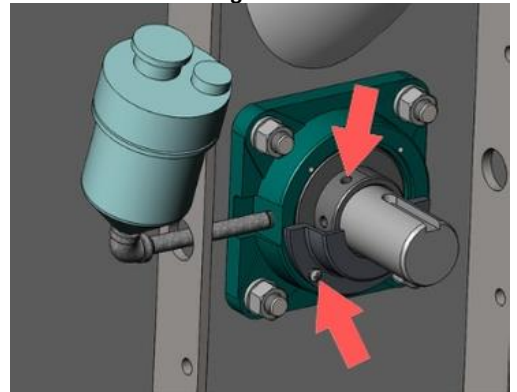

Figure 2
2. Remove the 4 screws that hold the bearing cap to the flange bearing. The cap covers 2 set screws (internal hex head) located in the inner race of the bearing. These set screws hold the rotor in axial alignment. See Figure 2